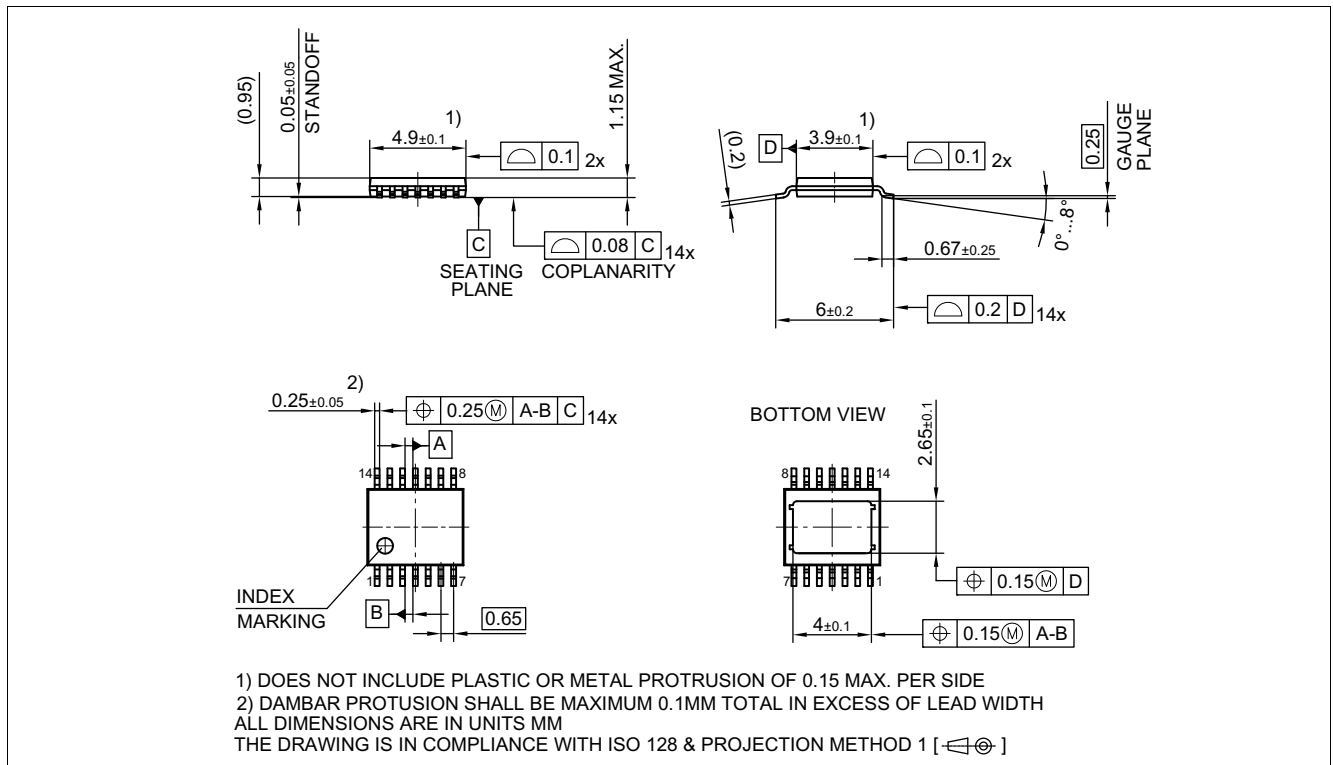
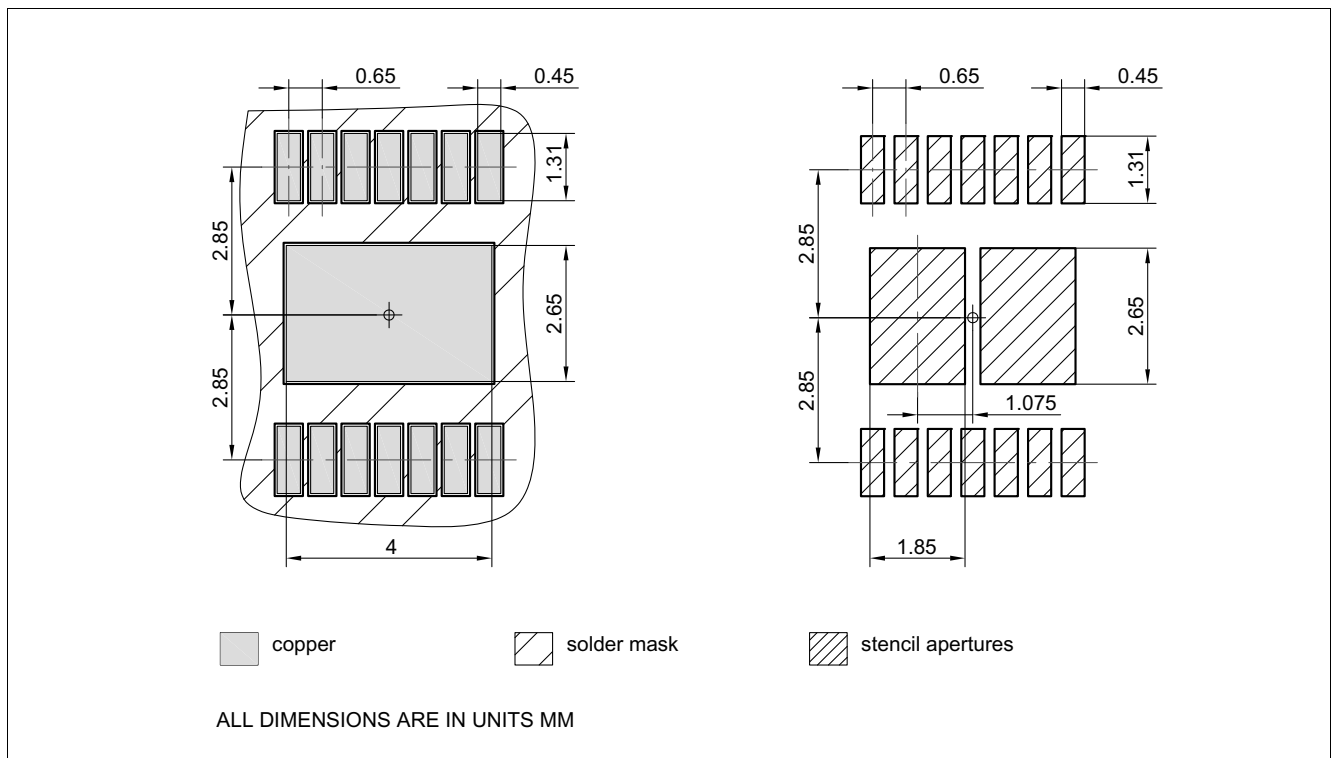

Figure 38 PG-TSDSO-14 (Thin (Slim) Dual Small Outline 14 pins) Package Outline
Figure 39 PG-TSDSO-14 (Thin (Slim) Dual Small Outline 14 pins) Package pads and stencil
1.02, 2019-02-05	<p>Figure 9, Figure 10 updated Page 1: updated (figure product) Table 22 updated (punctuation) Chapter 9.3, Chapter 9.3.1 updated (typo) Page 1: updated (Package PG-TSDSO-14-22 \rightarrow Package PG-TSDSO-14) Figure 38 updated (PG-TSDSO-14-22 (Thin (Slim) Dual Small Outline 14 pins) Package Outline \rightarrow PG-TSDSO-14 (Thin (Slim) Dual Small Outline 14 pins) Package Outline) Figure 39 updated (PG-TSDSO-14-22 (Thin (Slim) Dual Small Outline 14 pins) Package pads and stencil \rightarrow PG-TSDSO-14 (Thin (Slim) Dual Small Outline 14 pins) Package pads and stencil) Table 1 updated (Parameter: Minimum Overvoltage protection ($T_J = 25\text{ }^\circ\text{C}$) \rightarrow Minimum Overvoltage protection ($T_J \geq 25\text{ }^\circ\text{C}$)) Table 1 updated (corrected typo in table Product Summary: $I_{VS(OFF)}$: 1 \rightarrow 0.9 μA) Table 1 updated (Symbol: $I_{VS(OFF)} \rightarrow I_{VS(OFF)_85}$) P_6.5.20.1 updated (Symbol: $I_{VS(OFF)} \rightarrow I_{VS(OFF)_85}$) P_6.5.20.2 updated (Symbol: $I_{VS(OFF)} \rightarrow I_{VS(OFF)_150}$) P_9.7.10.27, P_9.7.10.29 updated (Note or Test Condition: formatted physical symbols as subscript)</p>